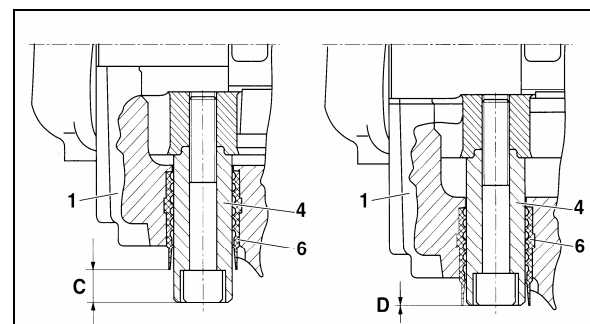

FIGURE 28: BRAKE PAD CHECK 12117
The pad thickness can be seen but would require removal of the tire and rim. An indicator of the pad wear condition is available by inspecting the floating pin location in relation to the rubber bushing as shown in figure 28. When pads are in new thickness condition, the pin will be exposed (C) 19 mm (3/4"). When the pads are worn to replacement conditions, the pin will be nearly flush to the bushing (D) or within 1 mm (3/64") of the edge of the rubber bushing.